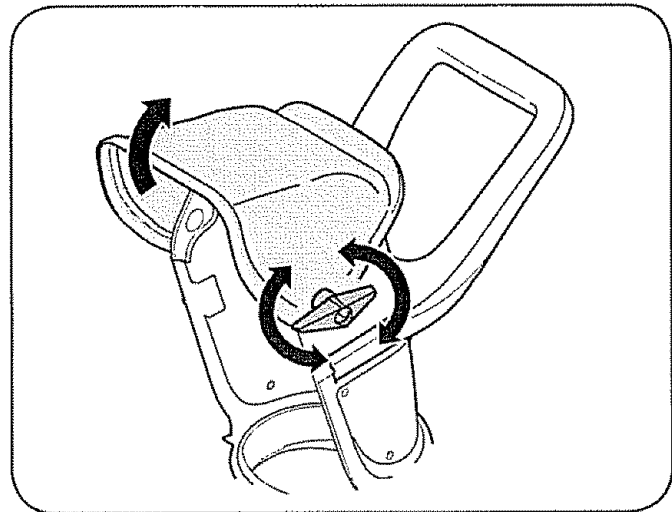

Figure 1
2. Loosen the wing knob on the upper chute and pivot the upper chute upwards as far as it will go. Then tighten the wing knob on the upper chute making sure the carriage bolt is correctly positioned. Refer to Figure 1.